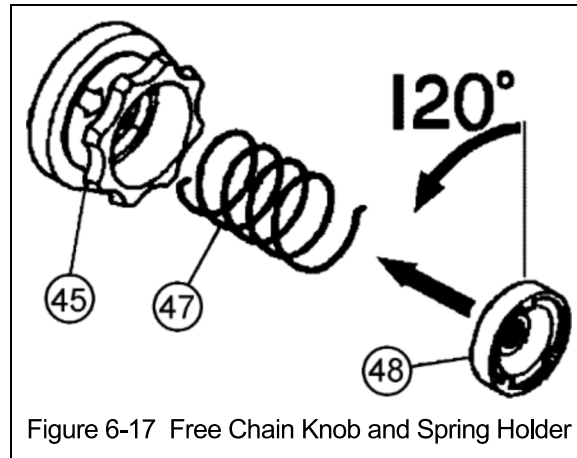

Figure 6-17 Free Chain Knob and Spring Holder
- 6) Turn (48) Spring Holder 120° **counterclockwise** while lightly pressing it toward the (45) Free Chain Knob assembly. Install the spring holder onto the Pinion serration and hold it in place. Refer to Figure 6-17.
- 7) While holding the (48) Spring Holder in place, fasten it in place with the (49) Slotted Nut and (50) Split pin.